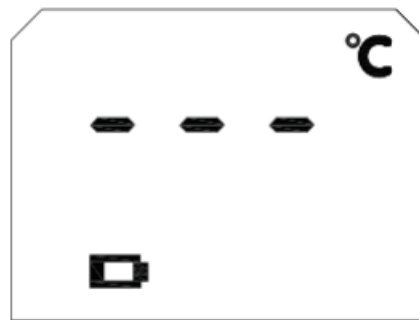

Figure7
- When the screen display is shown in Figure. 7, it indicates that the battery is in a low voltage state, but it can still meet the measurement. It is recommended to replace the battery as soon as possible. If the screen shows as shown in Figure 8, the thermometer will automatically shut down, please replace the battery and use it.